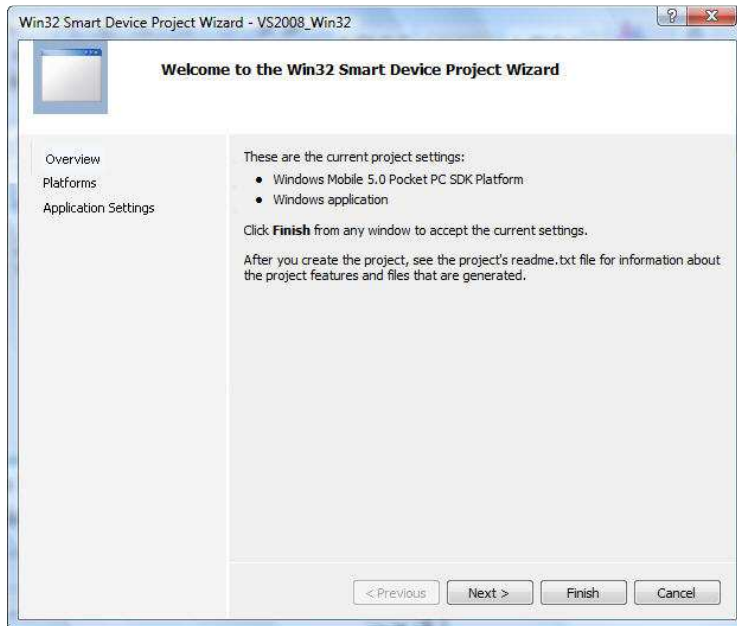

Fig. N02- Win32 Smart Device Application wizard
- Click on the **OK** button to bring up the Win32 Smart Device Project wizard, as shown in Figure N02.